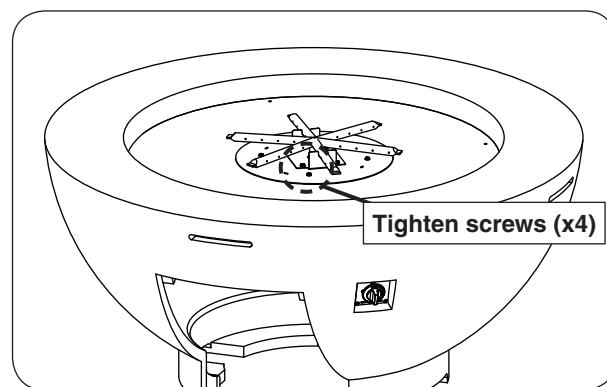

Fig. 25-3 Install burner
2. Use a  $\frac{5}{16}$ " nut driver to fasten the burner to the base (see Fig. 25-3).